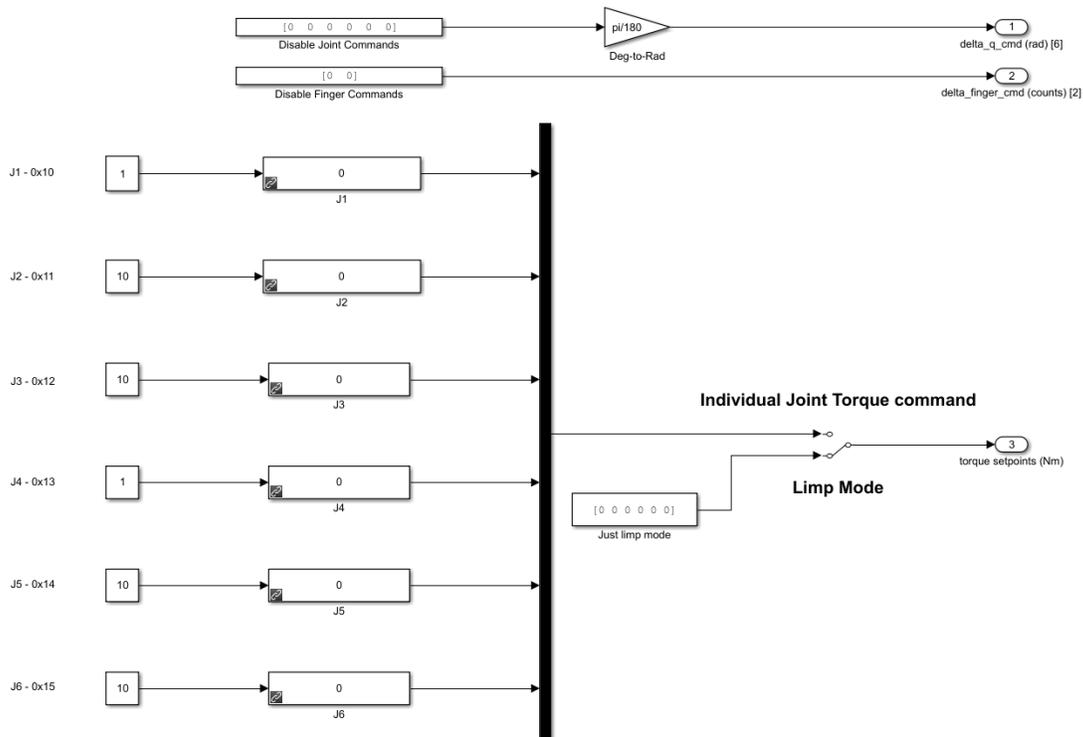

Figure 3.10: MICO\_Limp\_Mode.slx model commands
5. In the *Manual Torque Commands* subsystem, shown in Figure 3.10, set the *Limp Mode* Manual Switch to the downward position to enable *limp mode*. This applies zero torque command to all the joints and allows the user to move the robot arm freely.